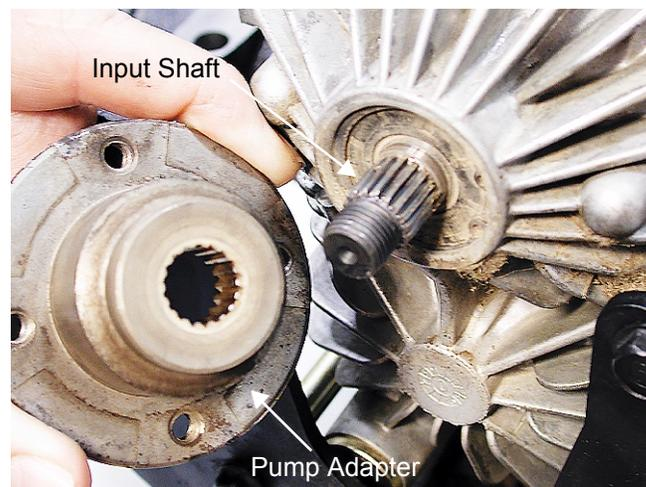

Figure 6
50. For 2002 production, the pump adapter will be splined to match the splined input shaft of the BDU-10L. See Figure 6.